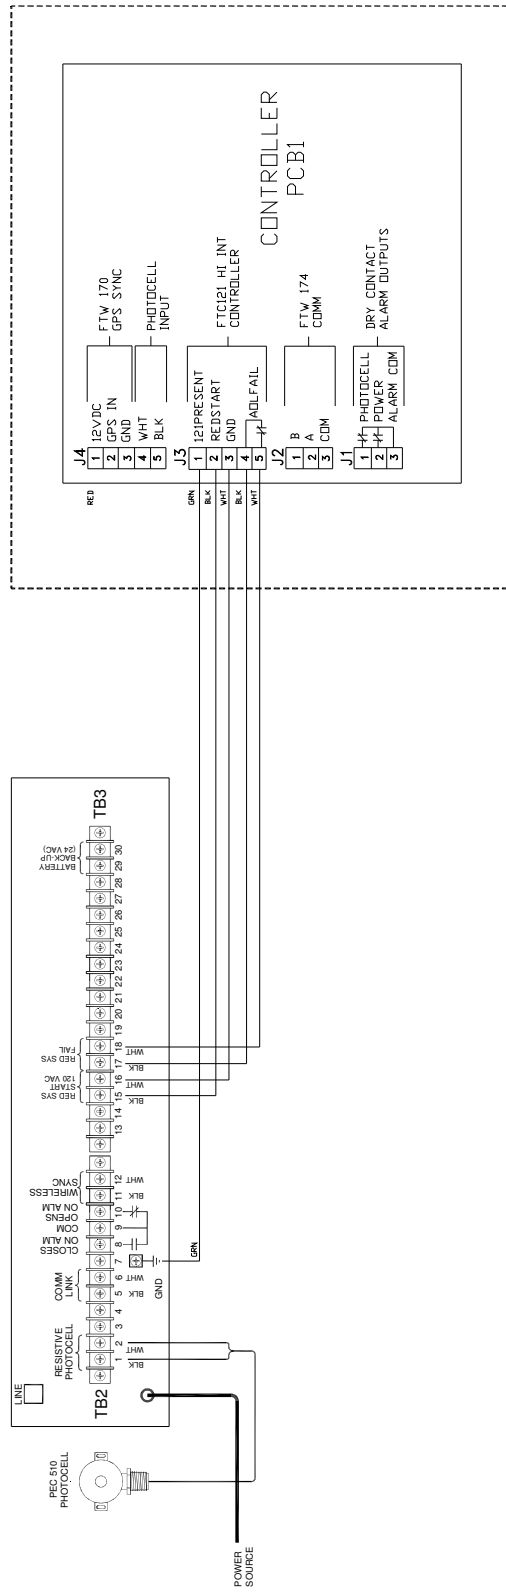

Figure 2-18 – FTC 121 System Interface
The connections for interfacing the FTS 361X-3 system with an FTC 121 System Controller are on J3. This interface will allow the FTC 121 to start or stop the operation of the FLC 361X-3 controller based on the ambient light level. It will also monitor operation of the uppermost red beacon(s) and set the system to white night mode in the event of a failure. The PEC 510 photocell should not be installed on the FLC 361X-3 controller when it is interfaced with an FTC 121 controller. Refer to Figure 2-18 and the FTC 121 System Controller manual for additional information.
8. “AOLFAIL” dry contact (PCB1 J3 terminals 4 & 5) is user configured in the “CONFIG” menu. “FTC121” should only be selected if the FTS 361X-3 is interfaced with an external FTC 121 controller (Figure 2-18). Otherwise, select “MODE RLY” (Mode Relay) to allow the “AOLFAIL” dry contact to indicate the current mode of the system. When “MODE RLY” operation is selected, a closed contact indicates day mode operation and an open contact indicates night mode operation. See “Configuring the System” in Section 1.